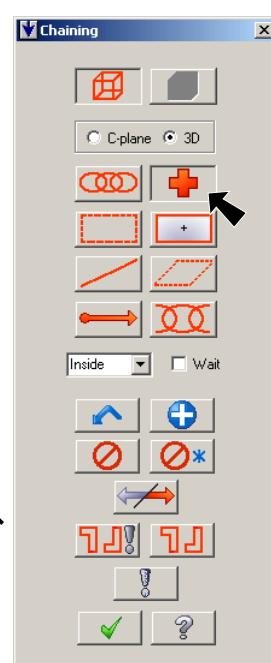

Fig. 27
Step 4. Click Point  (T) in Chaining dialog box, Fig. 27.